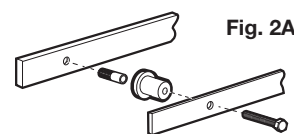

Figure 2A
Drill pilot hole. Insert lag bolt through the first track hole, then place the track spacer through the bolt on back of the track. Install the lag bolt with 1/2" socket ratchet. Do not tighten fully. Swing the track up and use the level to ensure the track is straight. Mark the remaining holes in the track. Drill remaining pilot holes. Slide the stopper (T) onto the track for the end of the track where you installed the first bolt so it is between the first and second holes on that end of the track. Install the next bolt and spacer at this end of the track. Install the remaining bolts and spacers. Go back and fully tighten the first bolt. Slide the remaining stopper onto the other end of the track. Do not set either stopper at this point. Refer to Figures 2A, 2B & 2C.